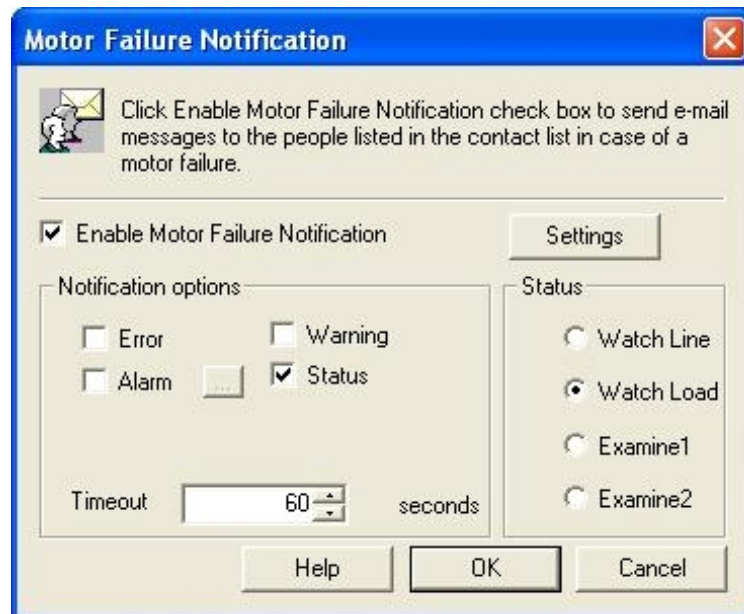

Figure 54: Motor Failure Notification
5. On the Motor Failure Notification window in Figure 54, click the **Settings** button.
9. On the Motor Failure Notification window in Figure 54, **click Enable Motor Failure Notification**